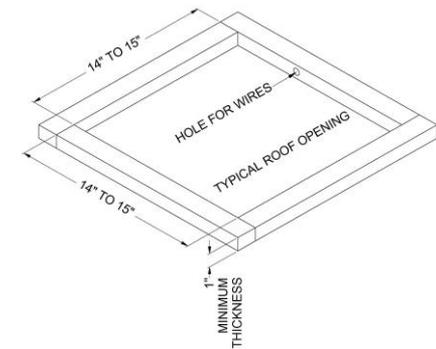

Figure 1
3. Examine the roof opening. If the opening is smaller than 14" x 14", the opening must be enlarged. If the opening exceeds 15" x 15", a mounting frame must be field fabricated to reduce the opening size (See Figure 1).
- B. If a roof vent opening is not used, a new opening (See Figure 1) will have to be cut into the vehicle roof. A matching opening will also have to be cut into the interior vehicle ceiling. If the ceiling opening is carpeted, snagging could occur. After the opening in the roof and interior ceiling are the correct size, a framed support structure must be provided between the exterior roof top and the interior ceiling. The reinforced frame structure must provide the following:
Airxcel, Inc. requires that the spacing from the vehicle roof top to the interior ceiling be no less than 1". A typical support frame is shown in Figure 1.